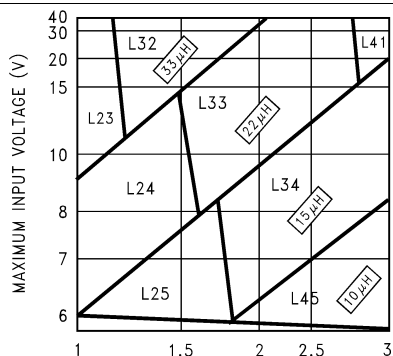
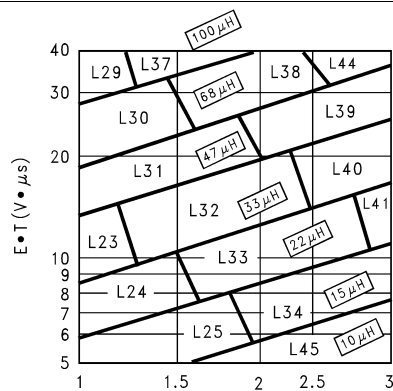

Figure 17. LM2676-3.3
Figure 20. LM2676-ADJ
Step 3: Determine the inductor required by using one of the four nomographs (Figure 17 through Figure 20). Table 3 provides a specific manufacturer and part number for the inductor.
Step 5: Determine an input capacitor from Table 7 or Table 8 for fixed output voltage applications. Use Table 1 or Table 2 to find the specific capacitor type. For adjustable output circuits, select a capacitor from Table 1 or Table 2 with a sufficient working voltage (WV) rating greater than V_{IN} max, and an RMS current rating greater than one-half the maximum load current (two or more capacitors in parallel can be required).
Step 3: Use the nomograph for the 3.3-V device (Figure 17). The intersection of the 16-V horizontal line (V_{IN} max) and the 2.5-A vertical line (I_{LOAD} max) indicates that L33, a 22- μH inductor, is required.